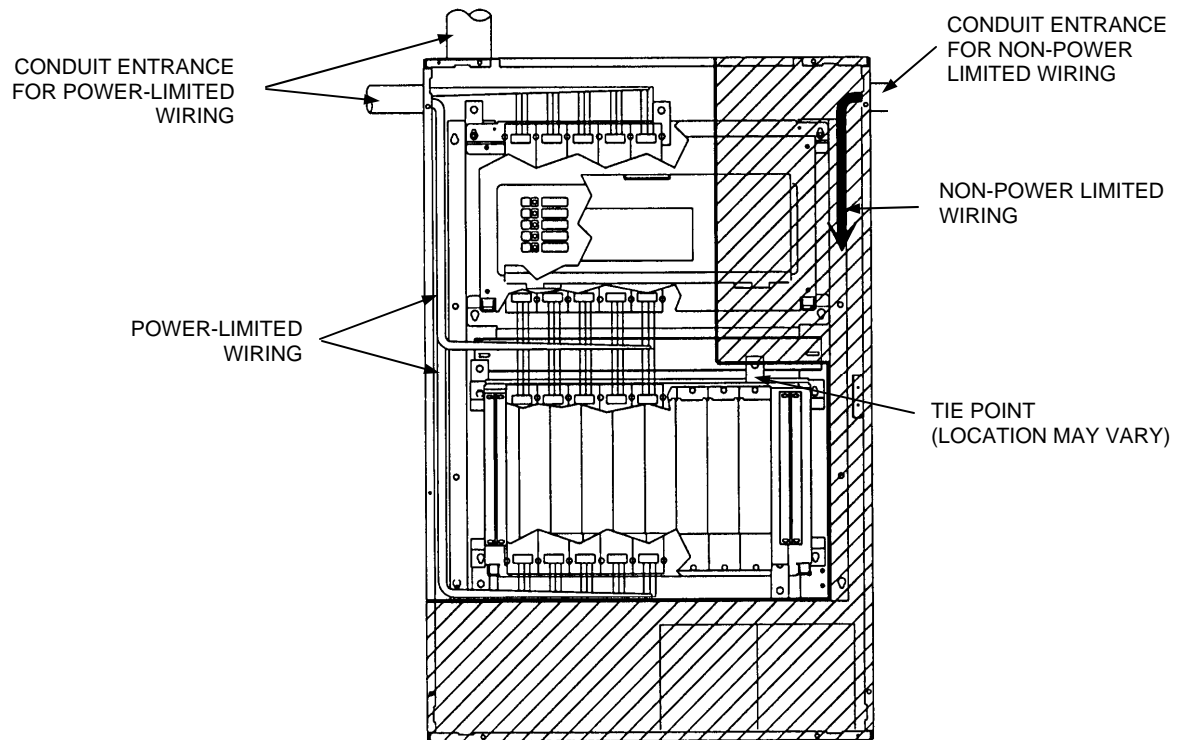

Figure 8. Power-Limited Wiring
- Non-power limited field wiring (AC power, batteries, City connection) must be installed and routed in the shaded areas shown in Figure 8.
- Power-limited field wiring must be installed and routed in the non-shaded areas shown in Figure 8, with the exception of City wiring.
- Excess slack should be kept to a minimum inside the back box enclosure. The wiring should be neatly dressed and bundled together using the wire ties provided with the equipment. Anchor power-limited wiring to tie points, as shown in Figure 8.